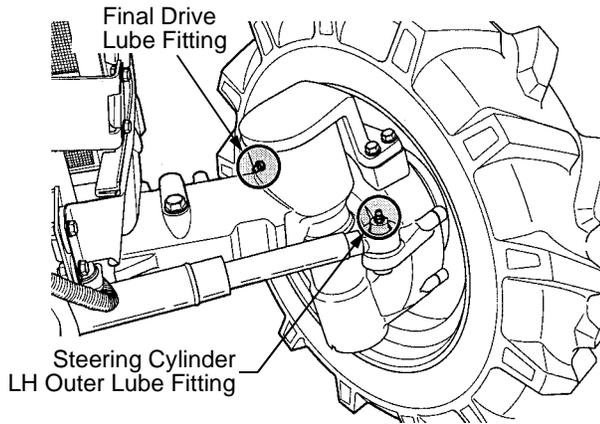

Figure 71
- Steering cylinders (inner and outer - both sides). See Figure 71.
- Top of front axle final drive (each side). See Figure 71.